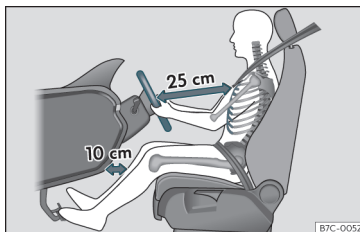

Fig. 2 The correct distance between the driver and the steering wheel must be at least 25 cm (10 inches).
- Move the steering wheel so it is at least 25 cm (10 inches) away from the steering wheel » **Fig. 2** and you can hold it with both hands on both sides, on the outer part, with your arms slightly bent.
- Move the seat in such a way that you can step on the pedals with your knees slightly bent and with a distance between the knees and the dashboard of at least 10 cm (4 inches) » **Fig. 2**.